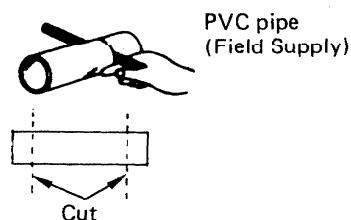

Fig. 8
f) Measure thickness of wall from inside edge to outside edge and cut PVC pipe at a slight angle 1/4" shorter than the thickness of the wall. Fig. 8